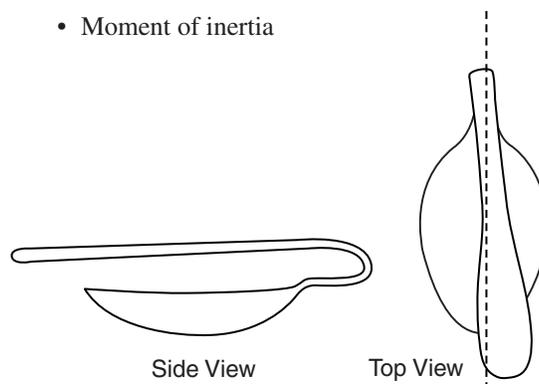

Figure 1. Bent Spoon Handle
2. Using pliers or your hands, bend the handle of the spoon so that it folds over the bowl of the spoon. Refer to Figure 1. When the handle is properly bent over the bowl, the spoon should remain balanced on the middle of the curved bottom of the spoon.
3. Once the spoon handle has been adjusted so that the spoon remains balanced while resting on its curved bottom, bend the handle of the spoon so that it is slightly skewed from the invisible center line running the length of the spoon's bowl (refer to Figure 1). Bend slightly and make sure the spoon remains balanced on the curved base.
- If the spoon handle is slightly skewed to the left of the invisible center line of the spoon's bowl (opposite to bend shown in the Top View of Figure 1), the "natural" rotation of the celt spoon will be clockwise.